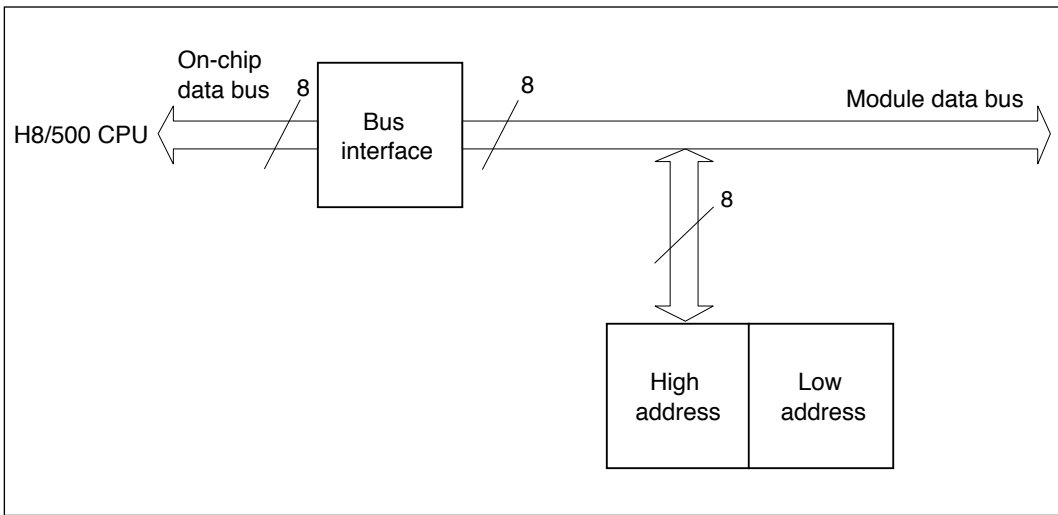
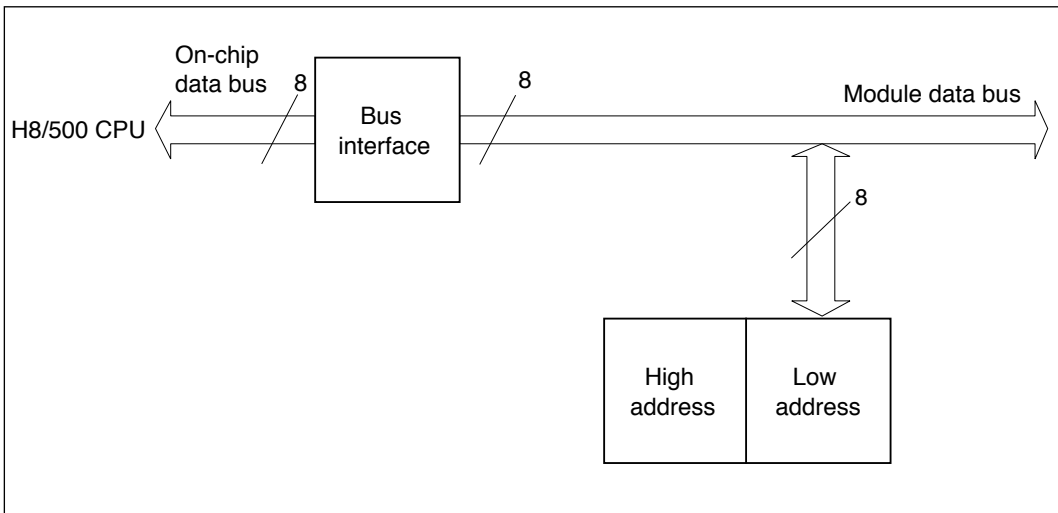

Figure 10-12 Upper Byte Read/Write Operations
Figure 10-13 Lower Byte Read/Write Operations
- **Read and Write Operations:** Table 10-6 lists the byte-accessed registers. Figure 10-12 illustrates upper byte read/write operations. Figure 10-13 illustrates lower byte read/write operations.